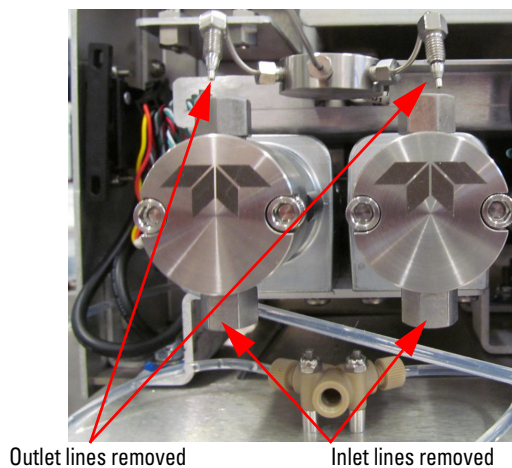

Figure 6-22 Location of fittings
8. With the pump assembly pulled out, remove the inlet fittings connected to the bottom of the pump head. Using a $\frac{1}{4}$ " wrench, remove the stainless steel outlet lines on the top of the pump head (Figure 6-22).